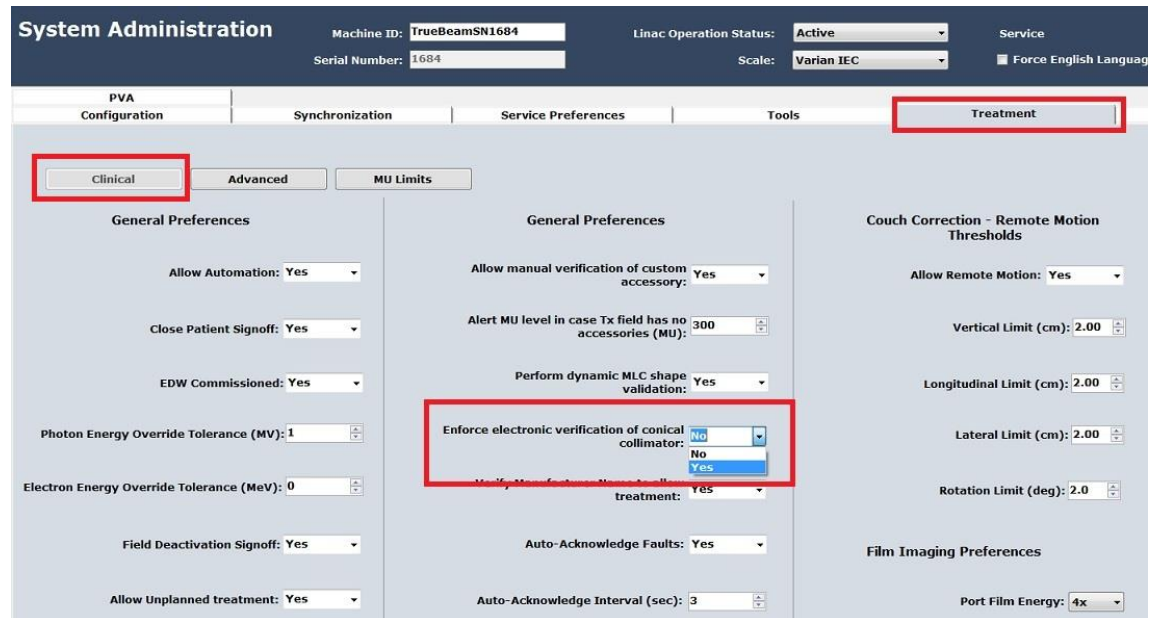

Figure 17: Enabling ICVI in System Administration
2. Select **Treatment** tab and **Clinical** sub-tab (see Figure 17).